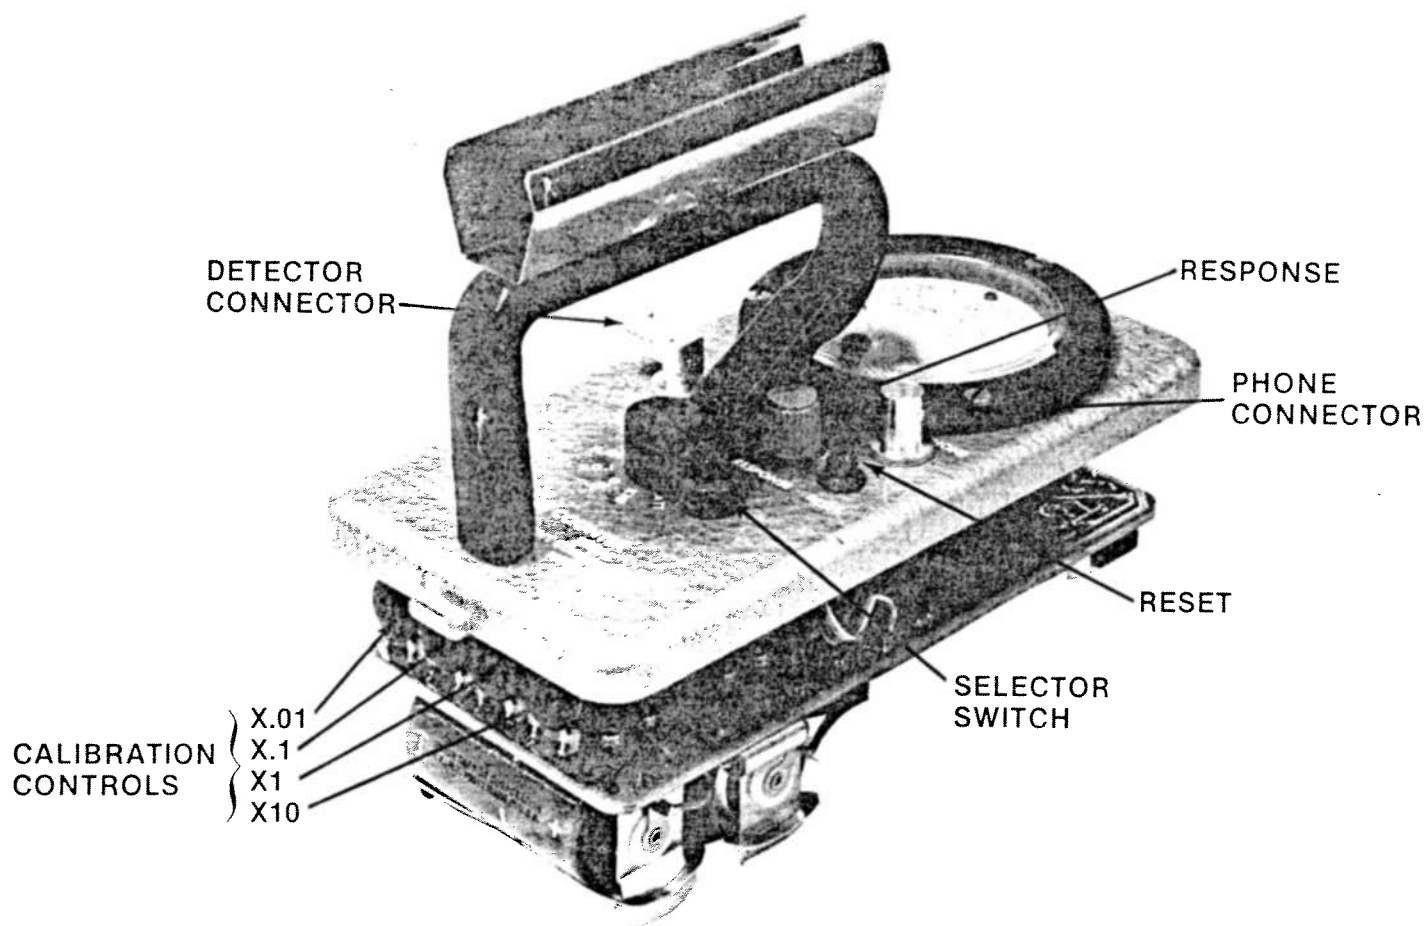

Figure 2-1. Location of Controls
1. EXTERNAL (See Figure 2-1)
2. INTERNAL (See Figure 2-1)